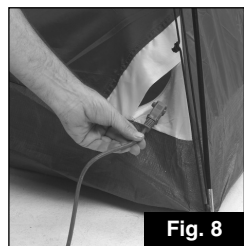

Fig. 8
1. Unzip access panel in the lower right corner of tent and bring in electrical cord. Use only UL approved cords that are rated for outdoor usage. (Fig. 8)